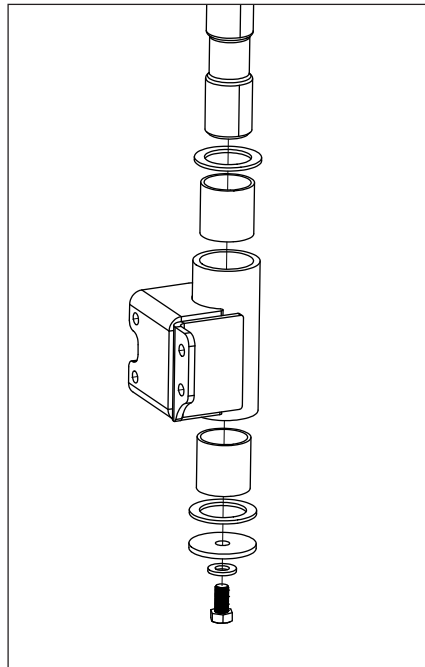

Figure 14
7. Install bronze washer all the way onto the spindle on the Tire Carrier and carefully install the spindle into the spindle housing. Make sure the spindle is fully seated into the housing, then install the other Bronze Washer and steel Retention Disc. Use the fine thread 1/2"x 1" bolt and washer to firmly attach. There is no need to add grease at this time (fig. 14).